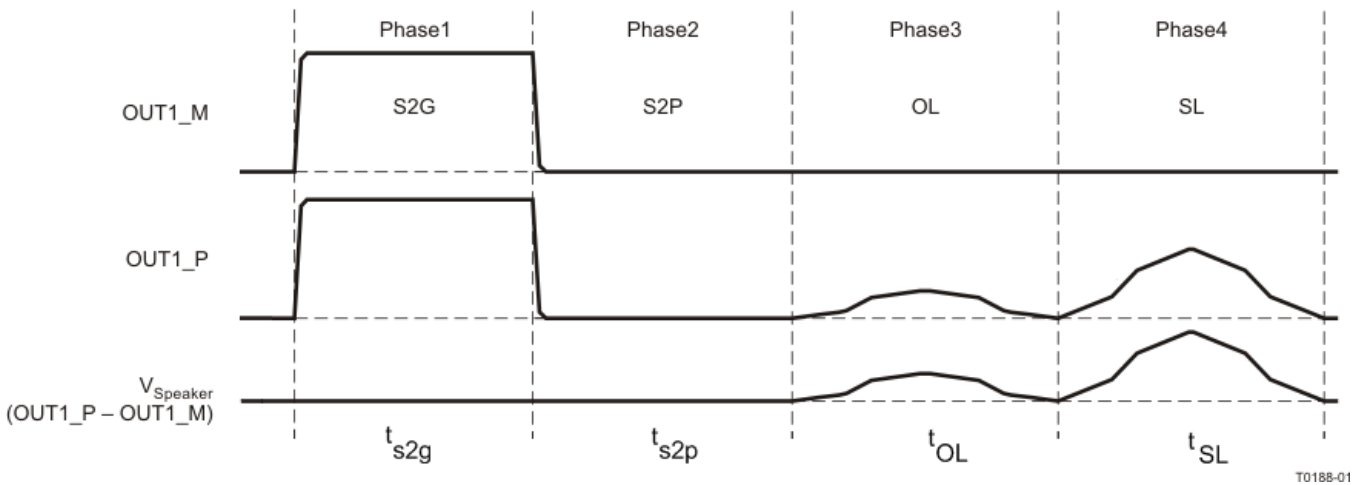
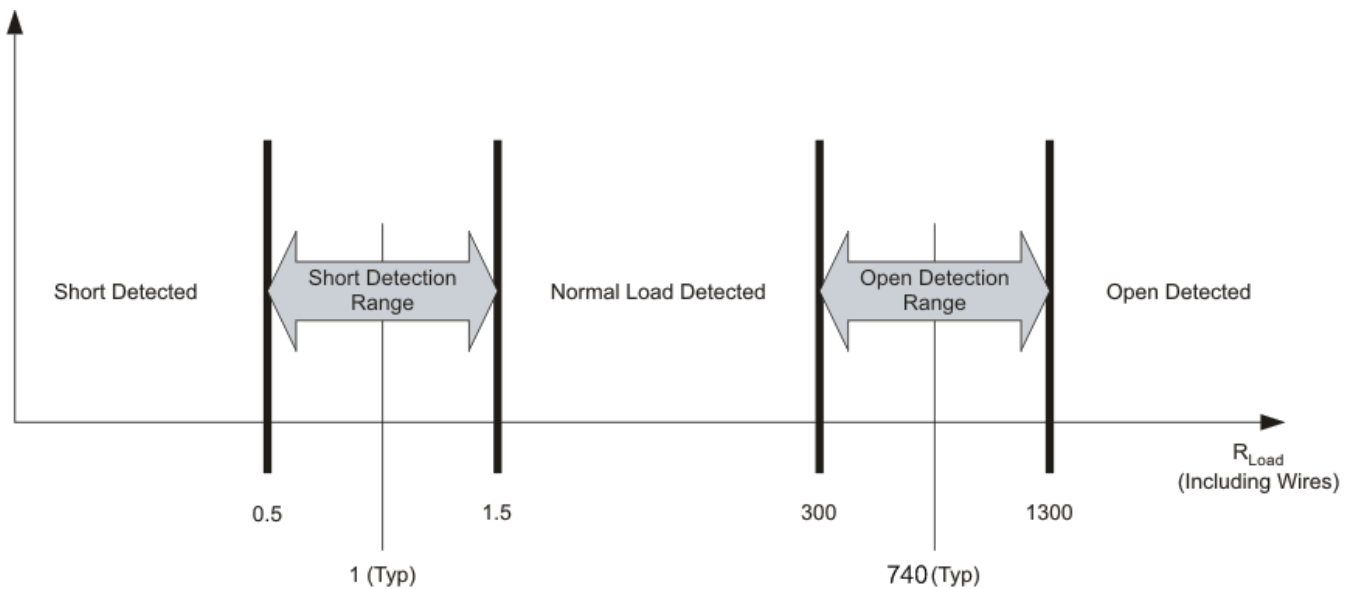

Figure 9. Load Diagnostics Sequence of Events
Figure 10. Open- and Shorted-Load Detection
**Output Short and Open Diagnostics**—The device contains circuitry designed to detect shorts and open conditions on the outputs. There are four phases of test during load diagnostics and two levels of test. All four phases are tested on each channel, all four channels at the same time. The diagnostics are performed as shown in Figure 9. Figure 10 shows the impedance ranges for the open-load and shorted-load diagnostics. With the default value of the MUTE capacitor the S2G and S2P phase take approximately 20 ms each, the OL phase takes approximately 100 ms, and the SL phase takes approximately 230 ms.
- **Undervoltage (UV) and Power-On-Reset (POR)**—The undervoltage (UV) protection detects low voltages on PVDD, AVDD, and CP. In the event of an undervoltage, the FAULT pin is asserted. Power-on-reset (POR) occurs when PVDD drops low enough. Recovery from a POR event is the same as a transition from standby to play mode.
- **Overvoltage (OV) and Load Dump**—The OV protection detects high voltages on PVDD. If PVDD reaches the overvoltage threshold, the FAULT pin is asserted. The device can withstand 50-V load-dump voltage spikes. Also depicted in this graph are the voltage thresholds for normal operation region, overvoltage operation region, and load-dump protection region. Figure 9 shows the regions of operating voltage and the profile of the load dump event.